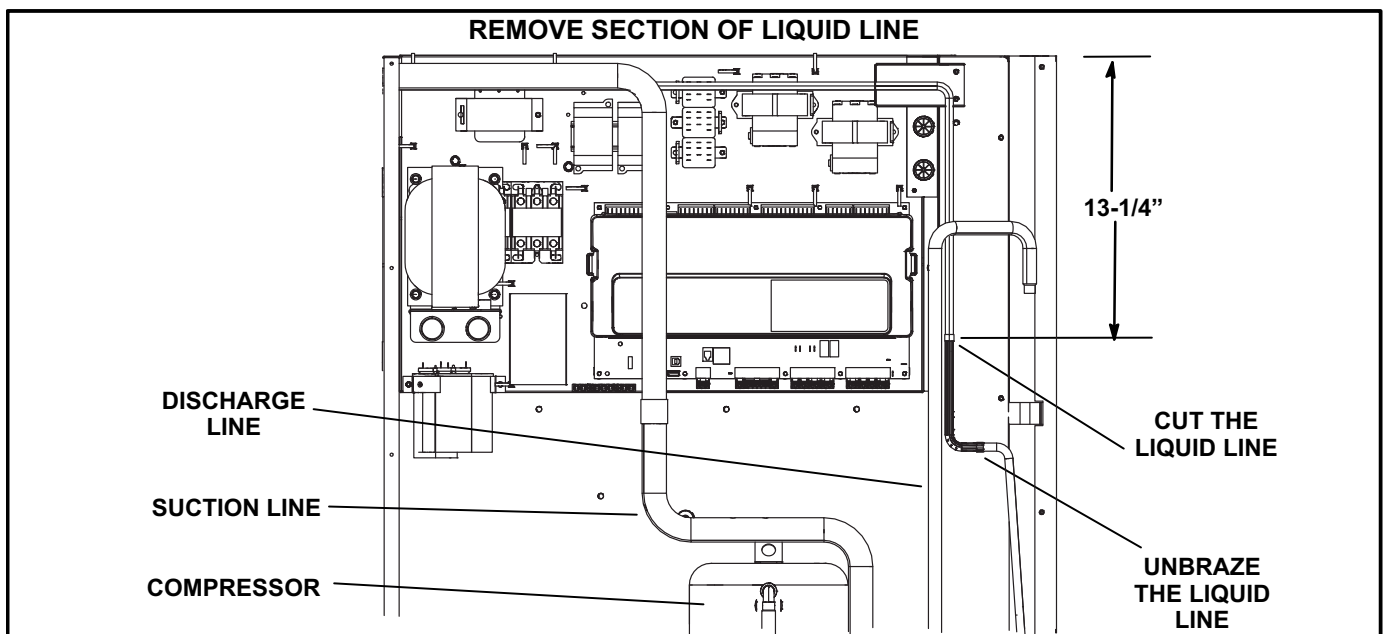

FIGURE 1
- 4- Unbraid and cut the liquid line as shown in figure 1.